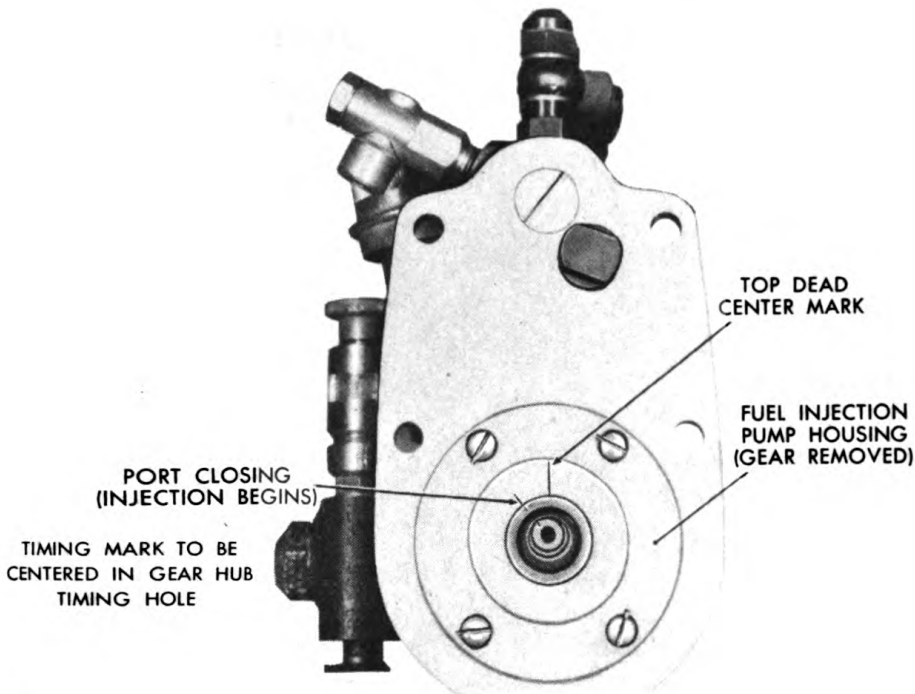
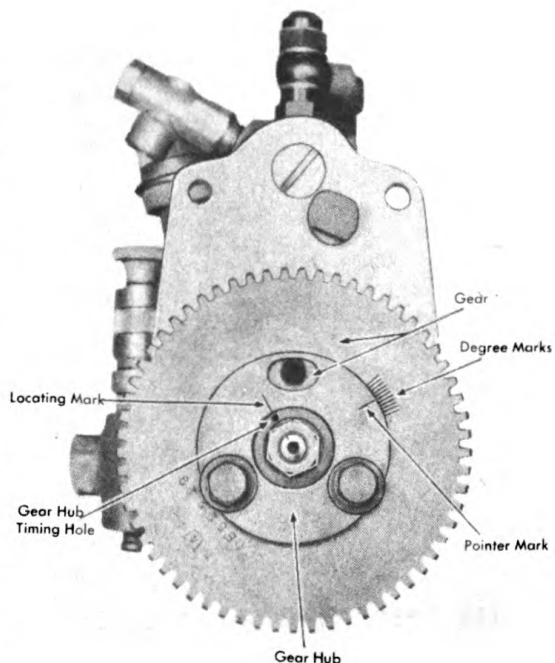

Figure 191. Timing Mark on Fuel Pump Housing.
Figure 192. Timing Mark in Center of Timing Hole in Gear Hub.
B. Revolve the gear of the fuel injection pump so that the mark on the pump case, shown in Figure 191, is in the center of the timing hole in the gear hub. See Figure 192.